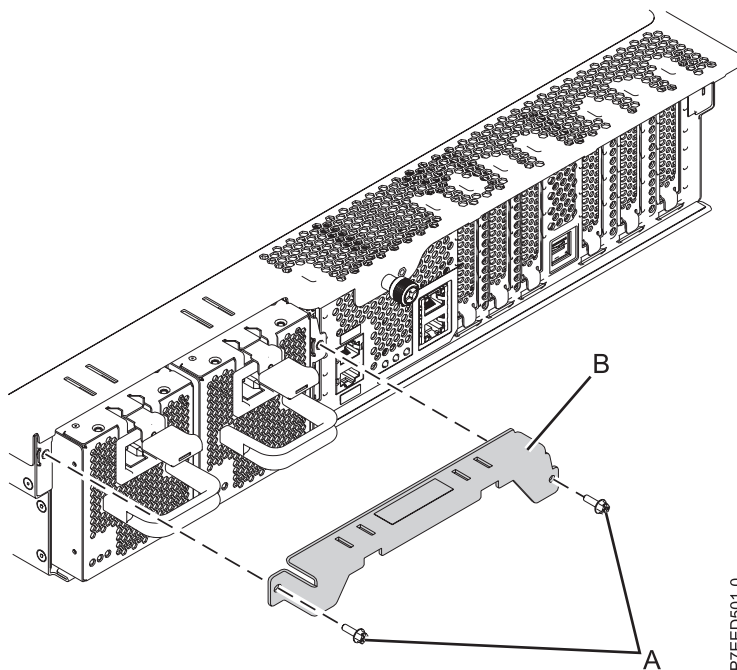

Figure 10. Shipping bracket removal
4. Remove the shipping bracket that is on the left side of the rear of the system before you cable it, as shown in Figure 10. To remove the shipping bracket, complete the following steps:
- a. Remove the two screws (A).